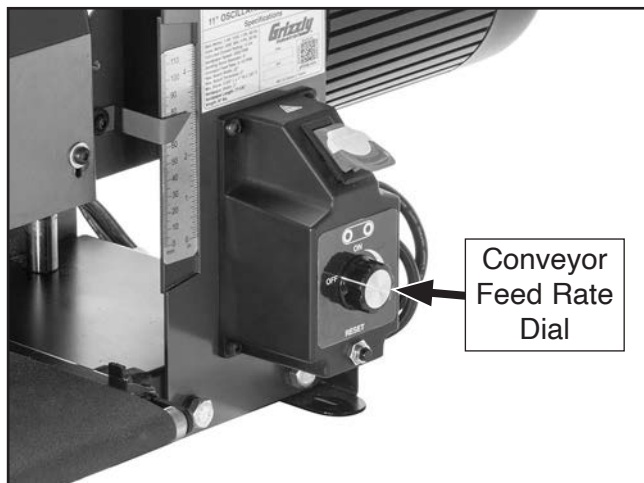

Figure 22. Location of conveyor feed rate dial.
The conveyor feed rate dial (see **Figure 22**) allows you to adjust the feed rate from 0–15 FPM. The correct feed rate to use depends on the type stock you are sanding (hardwood vs. softwood) and the stage of finish of the sandpaper.
2. Rotate conveyor feed rate dial (see **Figure 22**) clockwise to turn conveyor belt **ON**, then turn dial clockwise to increase feed rate or turn it counterclockwise to decrease feed rate. Turning dial all the way counterclockwise will turn conveyor belt **OFF**.